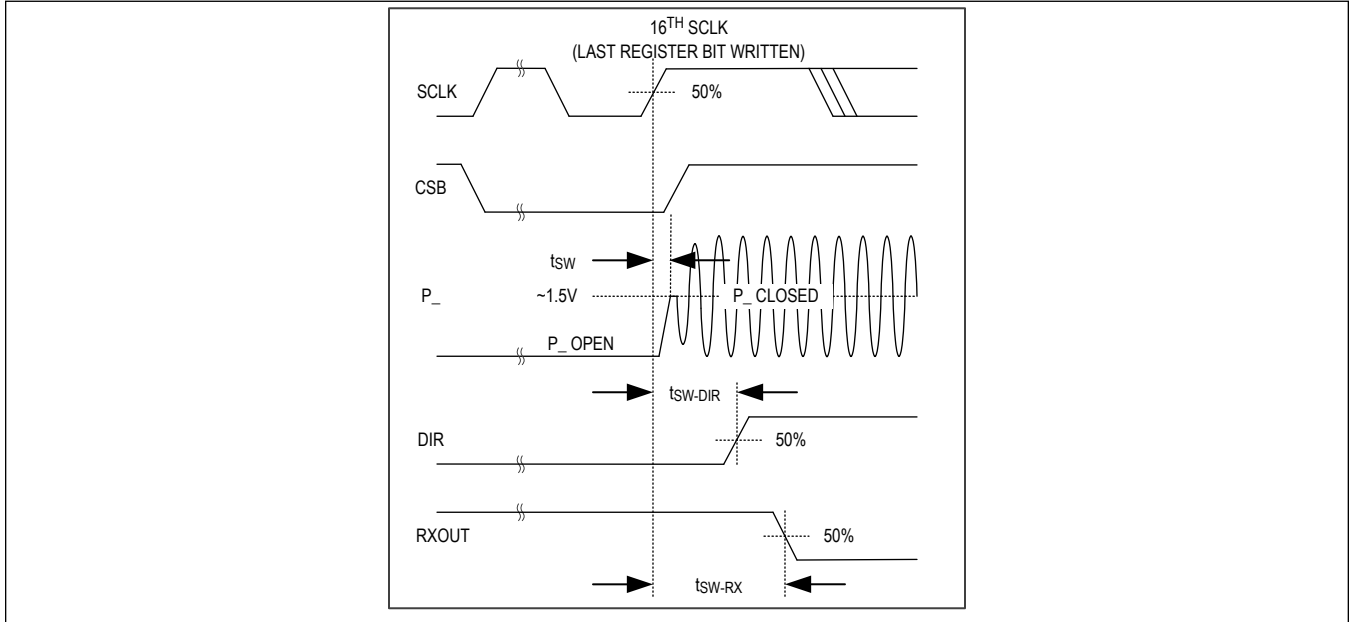

Figure 3. Switch Timing
**Note 10:** Switch time is defined from the rising edge of 16th SCLK during a change to the RFPORT register to the settled DC bias on the selected RF port. See Figure 3.
between the SPI clock domain and the internal operational clock domain. **Figure 3** shows how the MUX switch time is measured from the 16th SCLK transition to the measured 1.5V DC bias on the RF port ( $t_{SW}$ ), to the DIR output transition ( $t_{SW-DIR}$ ), and to the first RXOUT bit ( $t_{SW-RX}$ ).